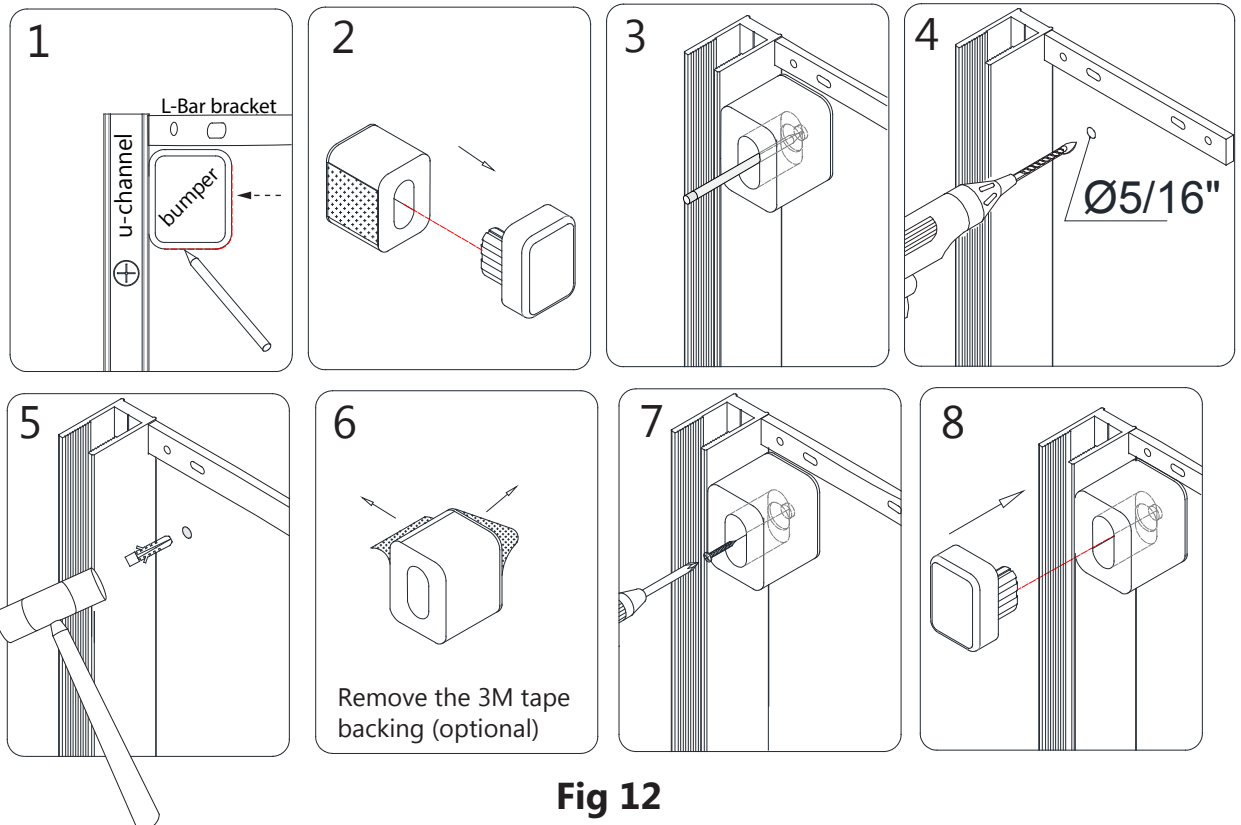

Fig 12
NOTE: The top **Bumper (#11)** needs to be installed with a screw, beneath the **L-Bar™ (#05)** and against the **Wall profile/U-Channel (#17)**. The bottom **Bumper (#11)** is installed with **3M tape** only. Attaching the bottom **Bumper (#11)** with a screw is optional. **(Fig 10, Fig 12 and Fig 13)**
11. To install the top **Bumper (#11)**: Remove the **Bumper insert (#11.1)** and hold the **Bumper base (#11.2)** in place against the **Wall profile/U-Channel (#17)** below the **L-Bar™ (#05)** (Fig #12.1) to mark the position on the wall and to mark the hole for drilling. Drill a **Ø5/16"** hole and insert a **Wall anchor (11.4)**. Clean the area with an alcohol swab. Remove the **3M tape backing** from the **Bumper (#11)** (Tape optional if using screw). Install the **Bumper base (#11.2)** with the **ST4.2 x 40 screw (#11.3)** and replace the **Bumper insert (#11.1)**. (Fig 12)